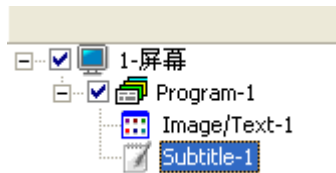

图 3-17
- ◆ Subtitle  :click subtitle button, add new subtitle in the current screen, as shown in figure 3-17,set the subtitle attributes as your require. More details about subtitle attributes setting ,please check in “4.3.2 subtitle attributes”